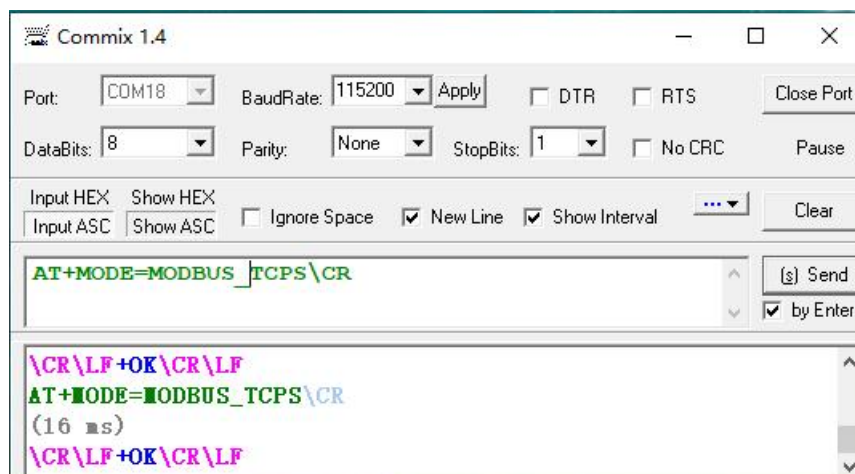

Figure 6-22 AT instruction for setting MODBUS \_ TCPS mode
- 1) Set the module to MODBUS \_ TCPS mode with port set to 5000. Both AT commands and web pages are available. Take AT command setting as an example, as shown in Figure 6-22. For specific AT command mode entry operation, please refer to AT Instruction Set Section.
- 2) As shown in Figure 6-22, the receipt of "+ OK" indicates that the module has finished setting the MODBUS \_ TCPS mode. Then exit the at finger Command mode, the program automatically returns to passthrough mode.